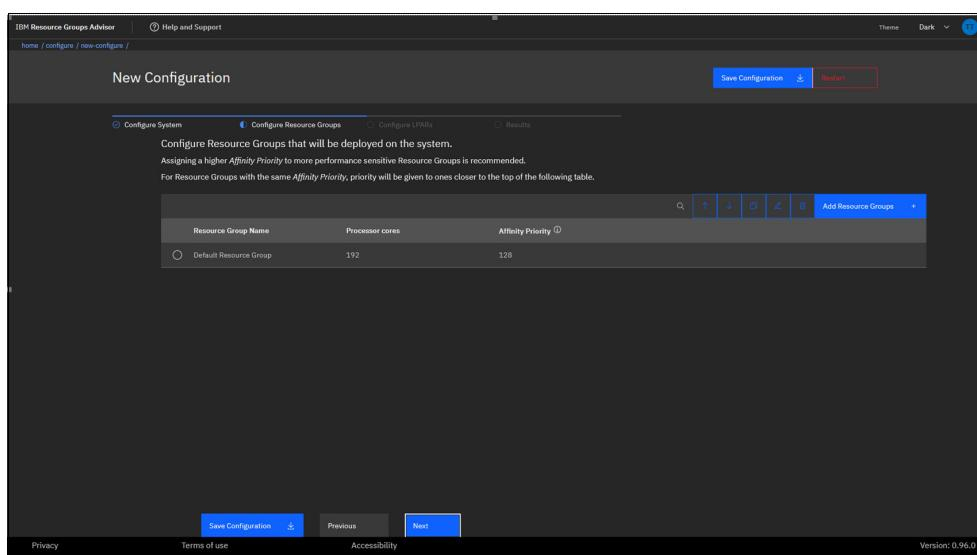

Figure 9-10 Resource group definitions
5. For resource group configuration (Figure 9-10 on page 190), you can accept the default or you can add additional resource groups to your configuration.